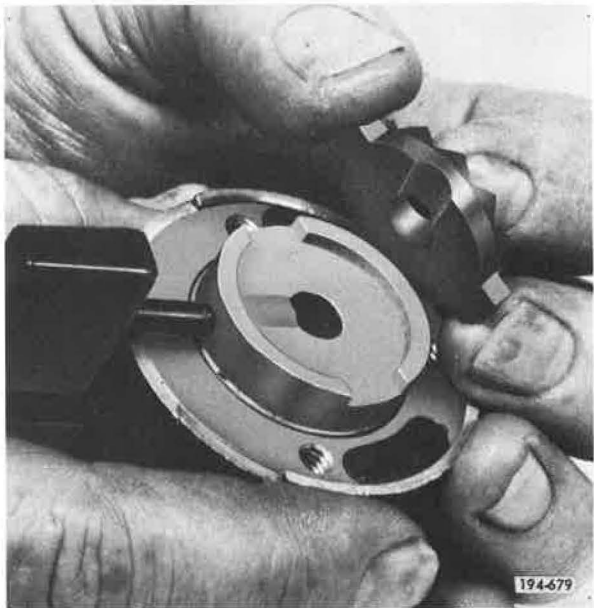

Figure 5-400. Installing Lower Detent Wafer
8. Install one detent wafer onto top of rotor. See Figure 5-400.